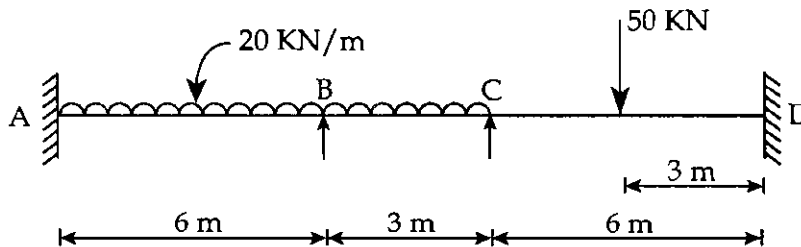

Figure 3
- (c) Analyse the continuous beam loaded as shown in Figure 3, by the slope deflection method. Support B sinks by 10 mm. Take  $E = 2 \times 10^5 \text{ N/mm}^2$ ,  $I = 16 \times 10^7 \text{ mm}^4$ . Sketch the bending moment and shear force diagrams. 10